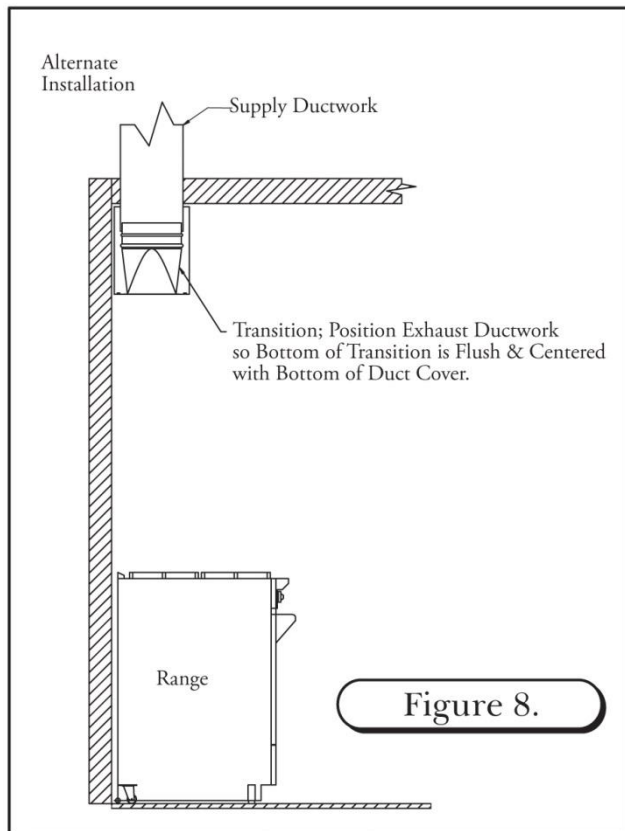

Figure 8.
2. Install transition to ductwork, ensuring transition bottom is centered and flush with bottom of duct cover (in most you cases you will not be able to mechanically fasten transition to ductwork. If mechanical fasteners are used, apply duct tape to hold transition in place until hood is mounted. This may be followed by a small amount of silicone at the connection of the transition of ductwork. (See Figure 8)